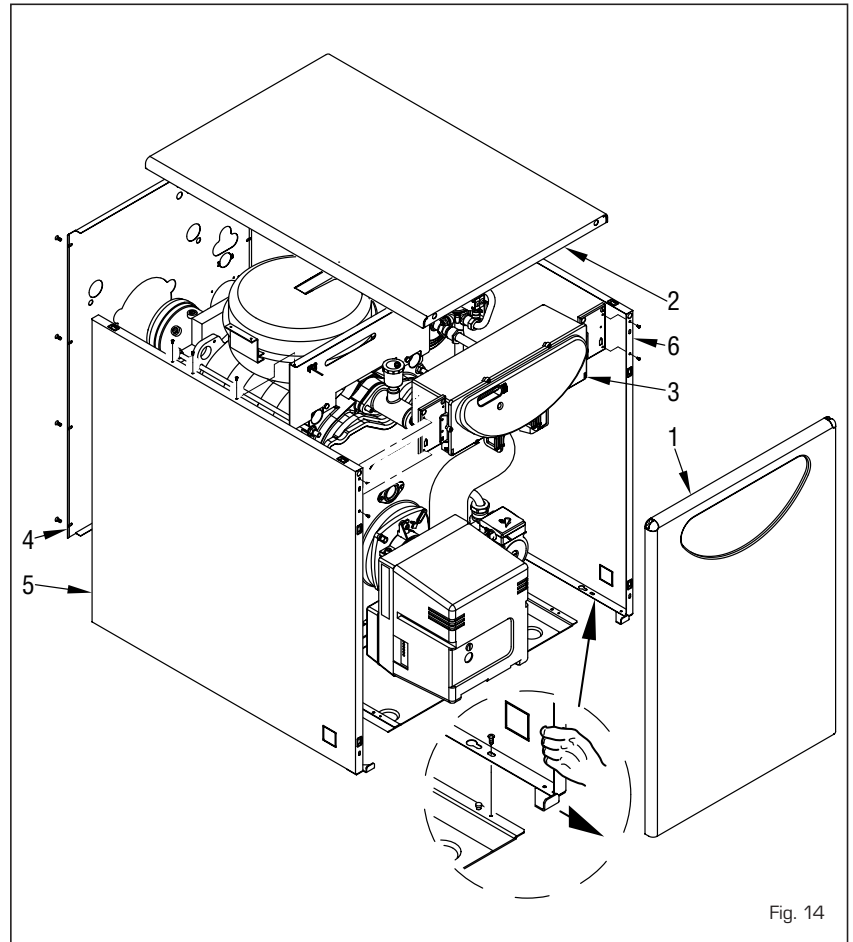

Fig. 14
4.4 DISASSEMBLY OF OUTER CASING (fig. 14)
The shell can be completely disassembled for an easy maintenance of the boiler by following the numeric steps shown in fig. 14.